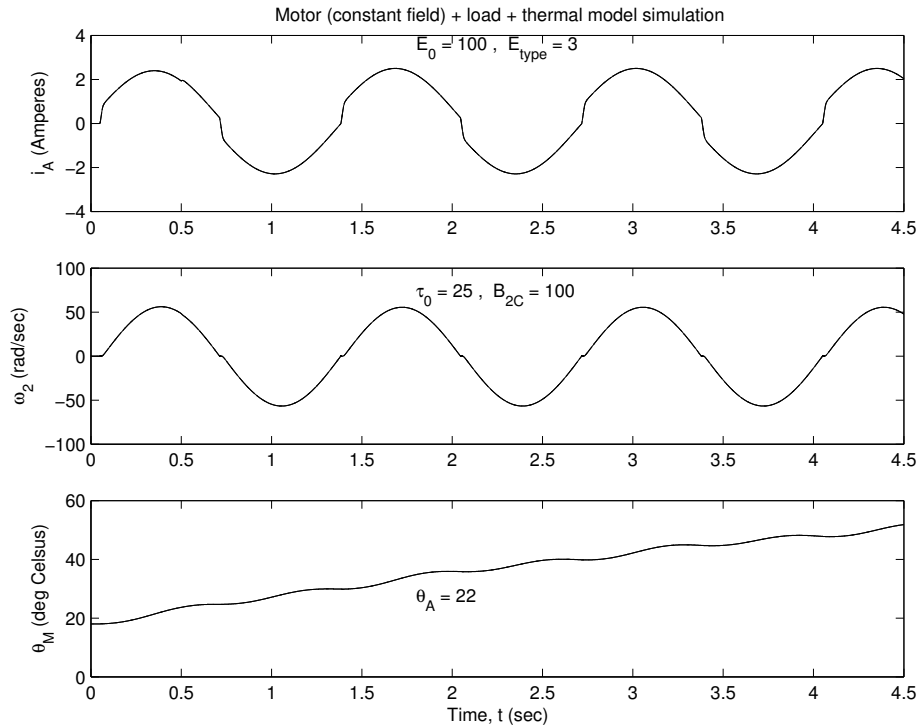

Figure 2: Motor response to a sinusoidal input, $B_{2C} = 100$ N (but different parameter values)
5. Now we will study a scenario where the motor is continually reversing – in other words, when we apply a 5 Hz sine wave of amplitude E_0 , starting at $t = 0.05$ sec. Use `ode45m`, set the final time to capture four or five cycles, use zero initial conditions except $\theta = 18^\circ$ C, set $E_0 = 90$ volts and set B_{2C} to 140 Newtons. Your result should be similar to the plots in Fig. 2. You should observe significant nonlinear behaviour in both the angular velocity (the brief “flat spots” where the motor sticks) and the current (sharp change in i_A when the motor sticks and thus back emf is zero). Again, collect the run time and number of time points for this case – even for this fairly tame case `ode45m` takes quite a bit of time. To see why, zoom in on one of the regions where the motor is “stuck”.